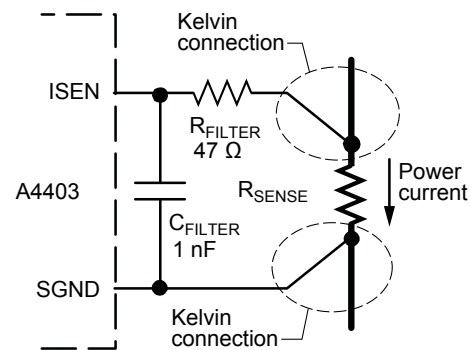

Figure 3. R-C filter added to the current sense circuit
**Sense Resistor** The sense resistor should be a surface mount package, with low inductance. On no account should a wire-wound or through hole package be used. To prevent potential mistriggering problems from occurring in noisy systems, it is recommended that an R-C filter be applied across the sense resistor, as shown in figure 3.
When laying out the PCB, it is essential that the sense resistor connections, carrying the power current (see figure 3), are as short and wide as possible to minimize the effects of leakage inductance noise. In addition, the Kelvin sense circuit connections should be as close to the sense resistor pads as possible.
The sense resistor connections should be connected in a Kelvin circuit (see figure 3) to the corresponding pins on the A4403